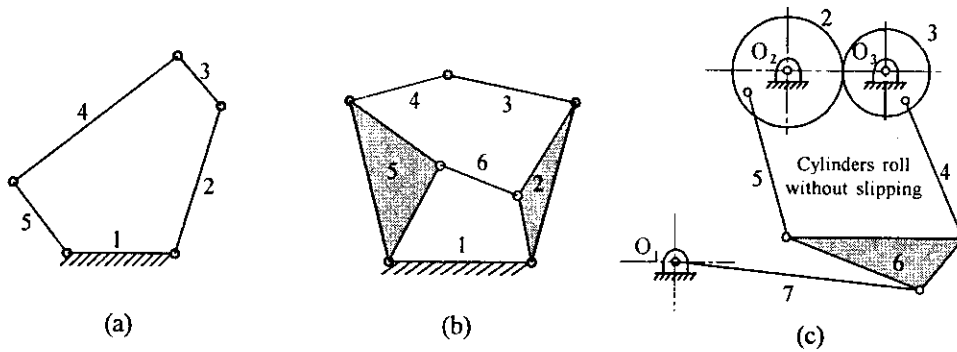

Fig. 1.45
12. Determine the mobility of the following devices shown in fig. 1.45. [Ans. 2, 1, 0]